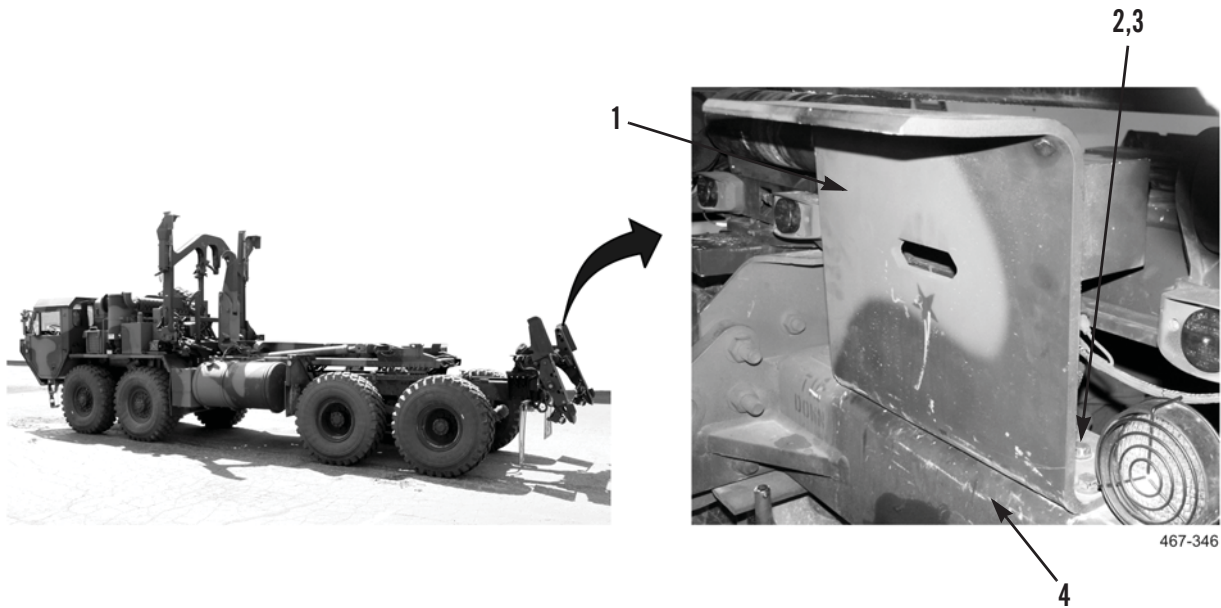

Figure 3. Bumper Stop Installation.
4. With assistance, install bumper stop bracket (Figure 3, Item 1), six bolts (Figure 3, Item 2), and nuts (Figure 3, Item 3) on frame (Figure 3, Item 4).